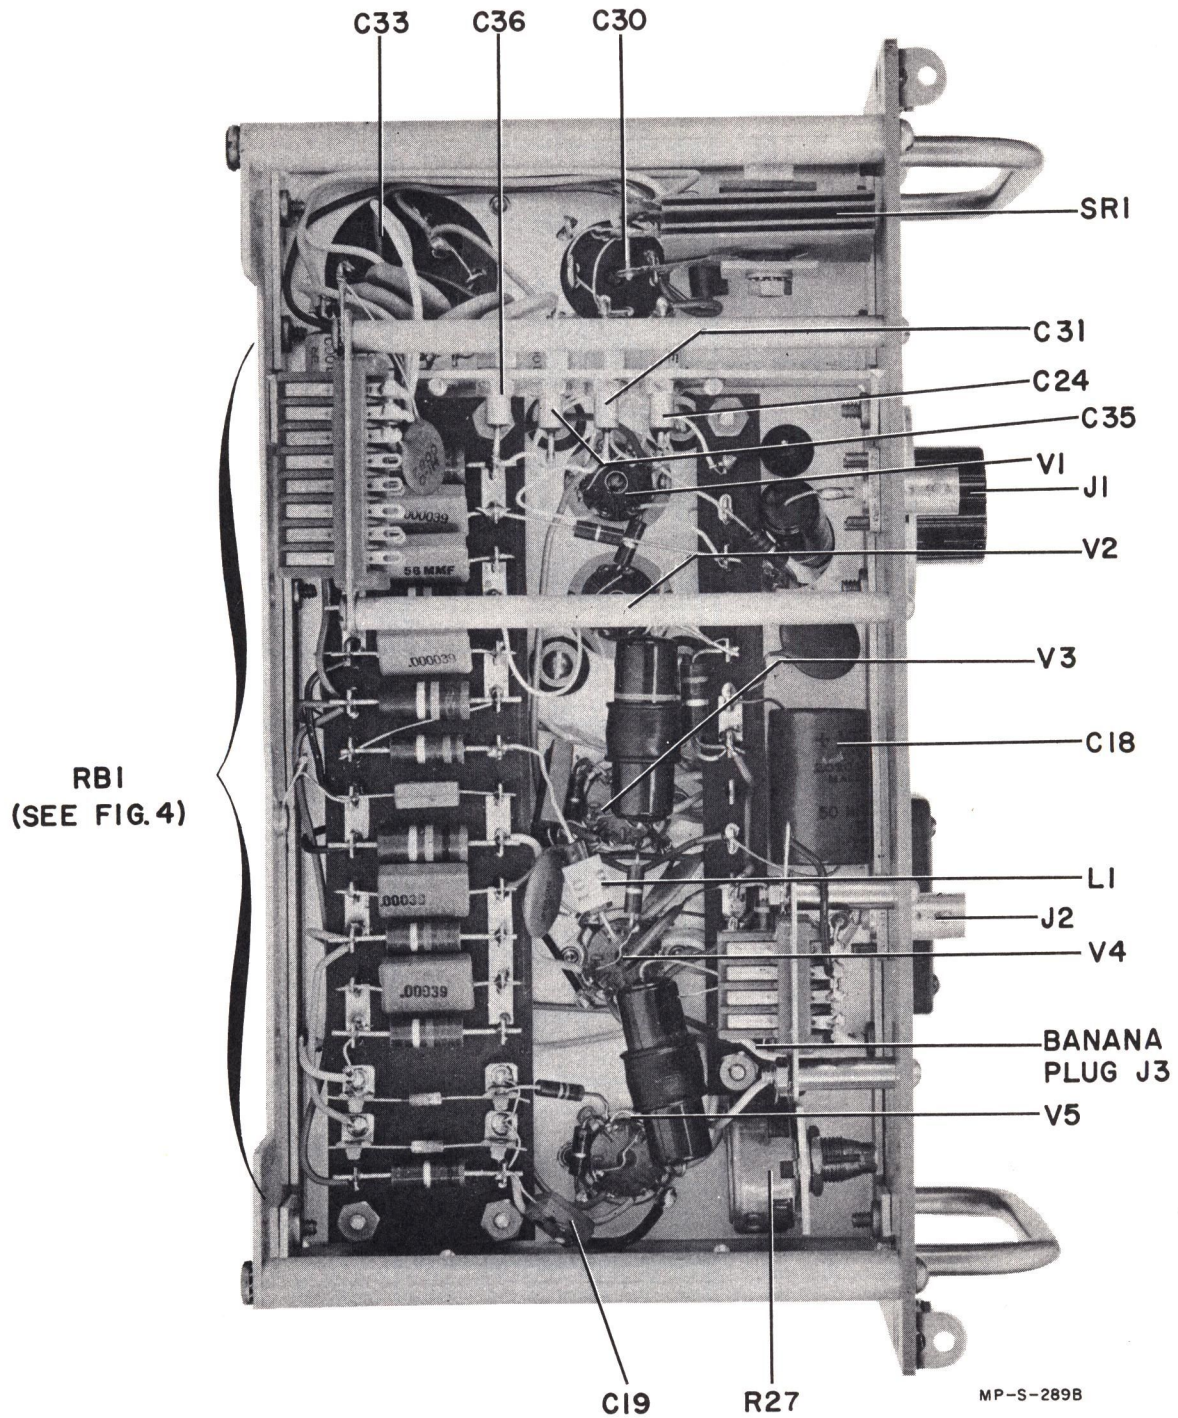

Figure 2. Model 526A Video Amplifier - Bottom View
- 3) Adjust the input signal amplitude to obtain 1 volt rms at J3. (Connector for removable banana type plug shown in Figure 2.)